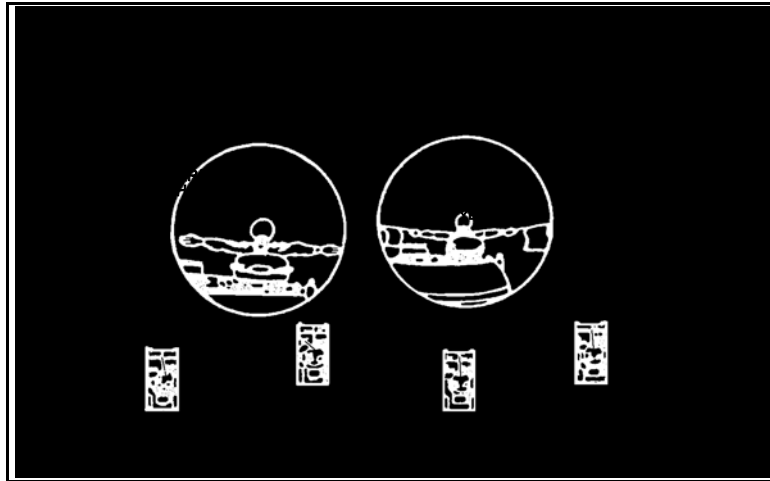

Figure 2. Line formation.
b. Select the line formation when assaulting an objective, crossing open areas, leaving a woodline, or emerging from smoke (Figure 2). Use this formation to cross an objective rapidly with maximum fire to the front. This formation lacks depth when compared to the column or wedge formations.